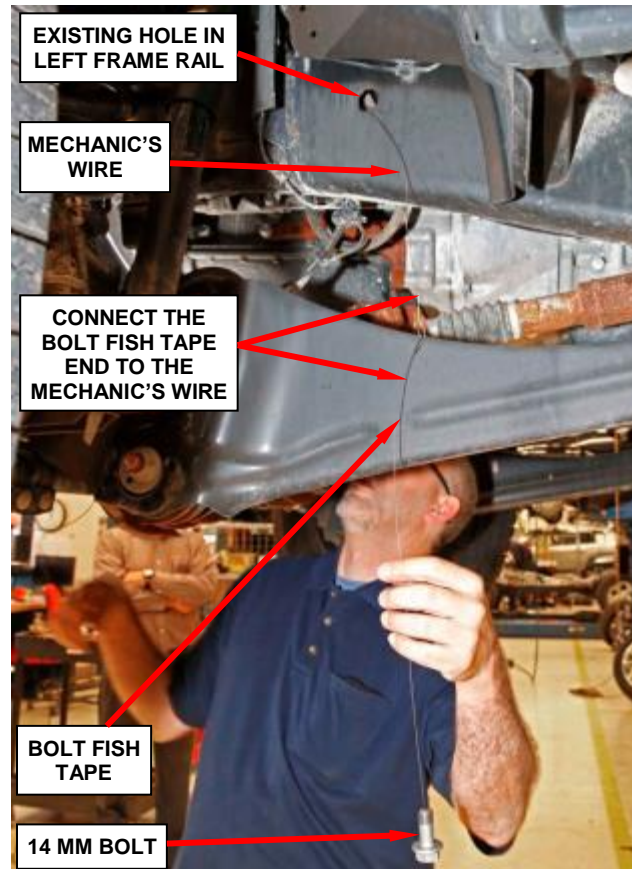

Figure 18 – Install 14 MM Bolt
31. Using a piece of mechanic’s wire and starting at the 5/8” diameter frame hole, insert the mechanic’s wire and feed it through the frame until it comes out the existing hole in the outside face of the left frame rail (Figure 18).
32. Connect the mechanic’s wire end to the “bolt fish tape” end at the outside face of the left frame rail (Figure 18).